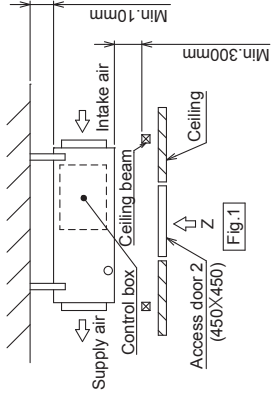

Fig.1
- (1) When a space of 300mm or more is available below the unit between the unit and the ceiling, (Fig.1)